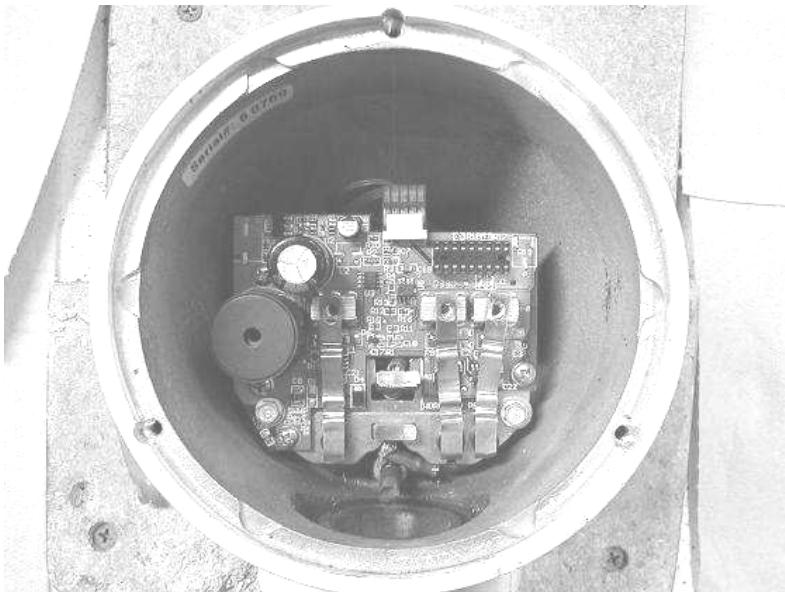

Fig. 6
18. Place the circuit in position in the body aligning the two mounting screw holes. Ensure that the insulator pad adheres to the rectifier and is not peeled or bent away from the rectifier. While orienting the circuit in the turbine, try to tuck the ribbon cable down towards the tail of the body to prevent it from being pinched as the circuit is bolted down. See **Fig. 6** below for correct orientation.